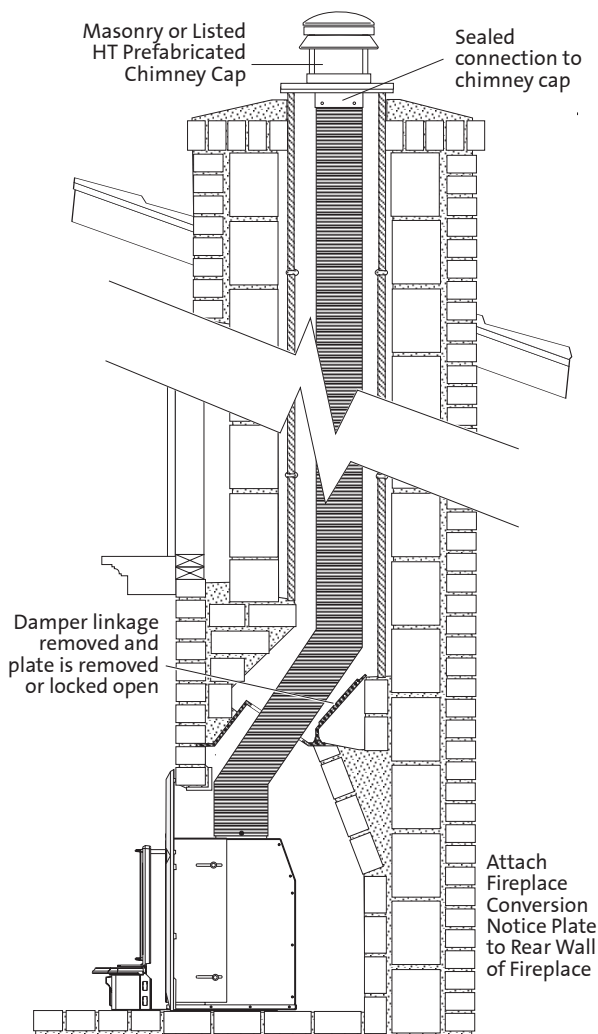

Figure 11a. Positive Chimney Connection - Canada.
**In Canada:** See fig. 11a. This fireplace insert must be installed with a continuous chimney liner of 6" (152 mm) diameter extending from the fireplace insert to the top of the chimney. The chimney liner must conform to the Class 3 requirements of CAN/ULC-S635, Standard for Lining Systems for Existing Masonry or Factory-Built Chimneys and Vents, or CAN/ULC-S640, Standard for Lining Systems for New Masonry Chimneys.